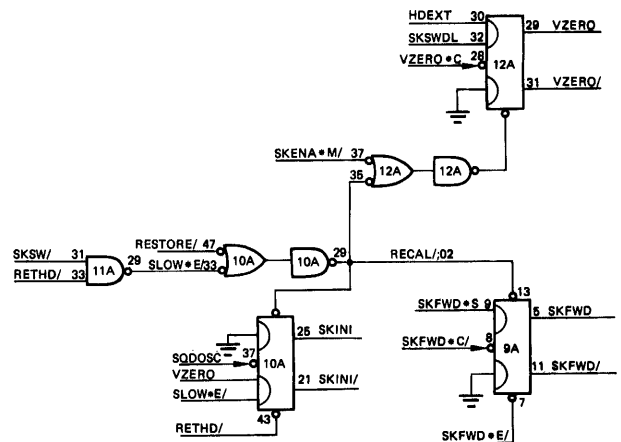

Figure 3-28. RECAL;/02 Logic
- SKINI and SKFWD are marked and VZERO is erased. Figure 3-28 shows the servo control flip-flops affected by RECAL;/02